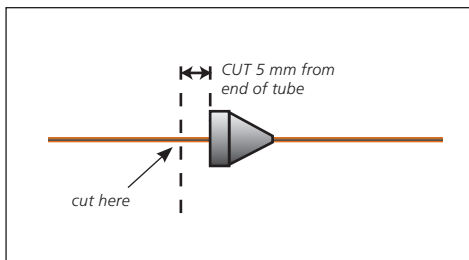

Figure 3. Cutting the tubing
5. Undo the nut and remove the restrictor from the splitter. The SilTite™ ferrule will be attached to the tubing and the excess fused silica can now be cut off the end. Cut the end of the tubing 5 mm from the end of the ferrule as shown in Figure 3.